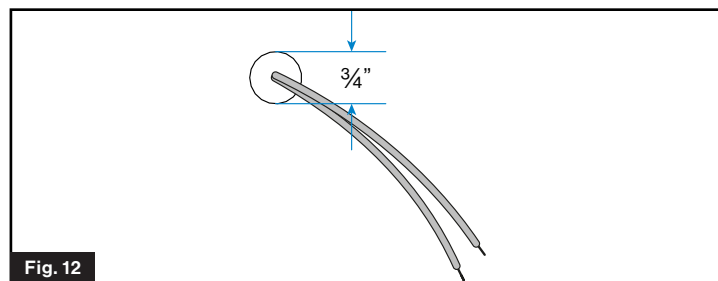
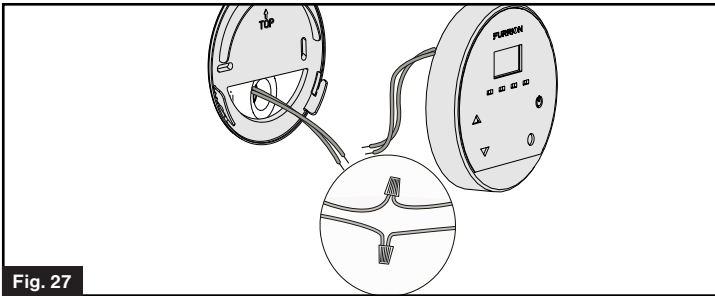

Fig. 12
Fig. 27
3. If necessary, run two electrical wires that extend the wall control connections (blue wires) to the appliance connections (blue wires) using the appropriate wire size. (Fig. 12)
2. Connect the two blue wires of the wall controller to the appliance directly or with the wall extension wires referenced in Fig 12. (Wall controller wires are blue, and polarity does not matter.) (Fig. 27)